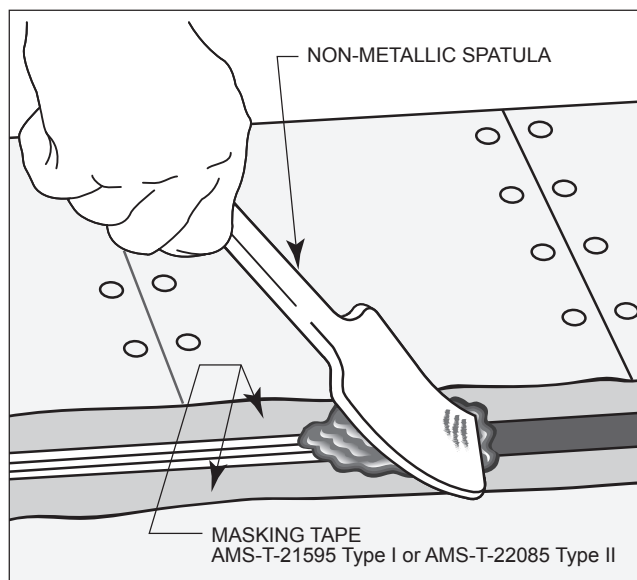

Figure 7-10. Application of Sealant with Non-Metallic Spatula
7-7.3. **MASKING**. To prevent sealant from contacting adjacent areas during application and smoothing out operations, the surrounding area not being sealed can be masked off with AMS-T-21595 Type I masking tape (Figure 7-10). In cases where the tape is likely to remain in place for more than two days on items exposed to direct sunlight and where tape residue on the surface cannot be tolerated, use AMS-T-22085 Type II preservation and sealing tape. Use of masking tape is recommended during fillet sealing of exterior surface lap and butt seams.
a. To prevent sealant from contacting adjacent areas during application and smoothing, outline the areas being sealed with masking tape (AMS-T-21595 Type I) so that each tape strip is $\frac{1}{8}$ to $\frac{1}{4}$ inch from the edge of the seams (see Figure 7-10).
(1) Paste sealants may be applied with a nonmetallic spatula or spreader as shown in Figure 7-10. Avoid the entrapment of air. Work sealant into recesses by sliding the edge of the spatula firmly back over the recesses. Smoothing will be easier if the nonmetallic spatula is first dipped in water.
(2) Sealant applied with a brush is applied and smoothed until the desired thickness is reached.
(3) Sealant applied with a sealant gun does not usually require masking and is especially adaptable to filling seams or the application of form-in-place gaskets.